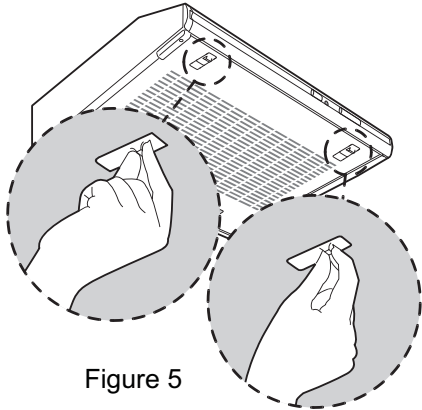

Figure 5
1. To Change Filter : Please push the two each Ratches in the front part of the panel with holes towards internal side (Figure 5).